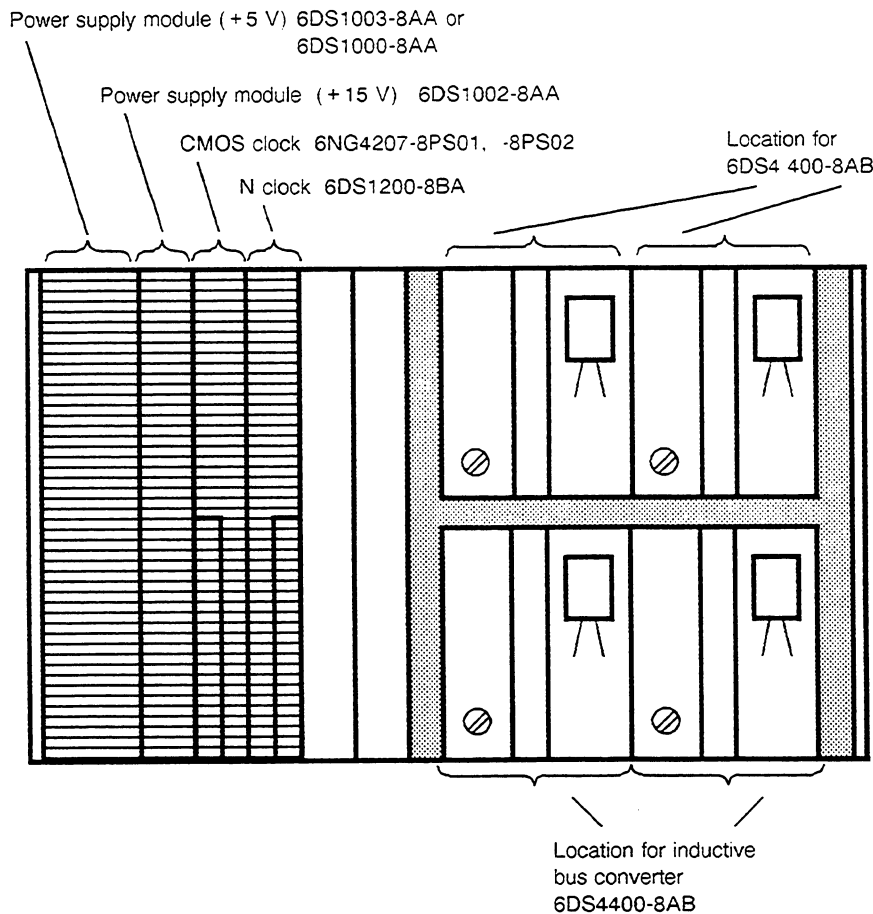

Fig. 3 Positions of the modules in the frame
If, in the case of a redundant bus configuration, there are insufficient slots for the inductive bus converters (UI) in the X-tier of the standard cabinet, then the UI modules can be fitted in the right-hand section of the clock frame (see Fig. 3 for locations).